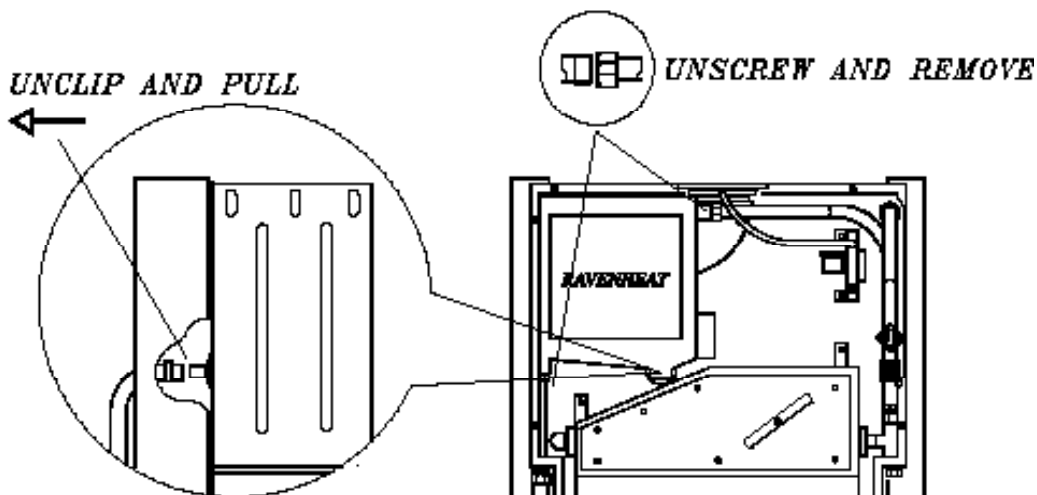

Fig. 55
**7.6.5.4** Disconnect 2 unions for the heating water pipelines (Fig.55) .
**7.6.5.5** Disconnect condensing discharge pipe by pulling off the pushfit connector at top rear of boiler (Fig 55)